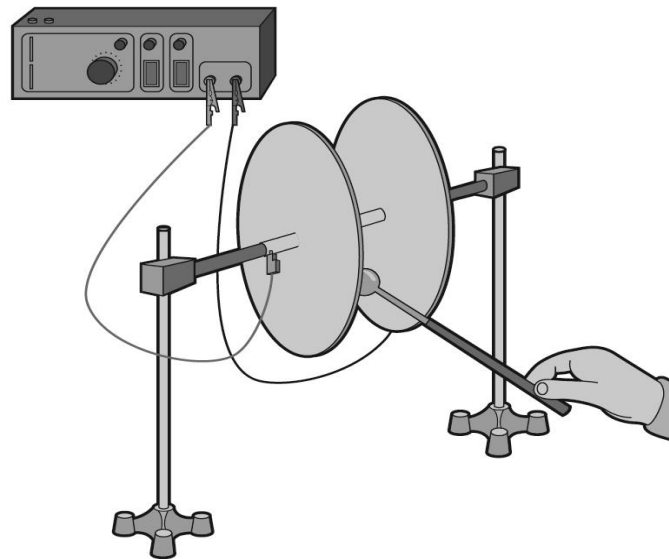

Figure 2
7. Use the red banana lead to connect one plate to the +3 kV socket of the high voltage power supply (see Figure 2).
8. Use the black banana lead to connect the second plate to the -3 kV socket of the high voltage power supply (see Figure 2).
9. Position the two plates parallel to each other so that the distance between them is 3 cm (see Figure 2).
5. Touch the inside of the plate that is connected to the positive terminal of the power supply with the charge sampler (see Figure 2).